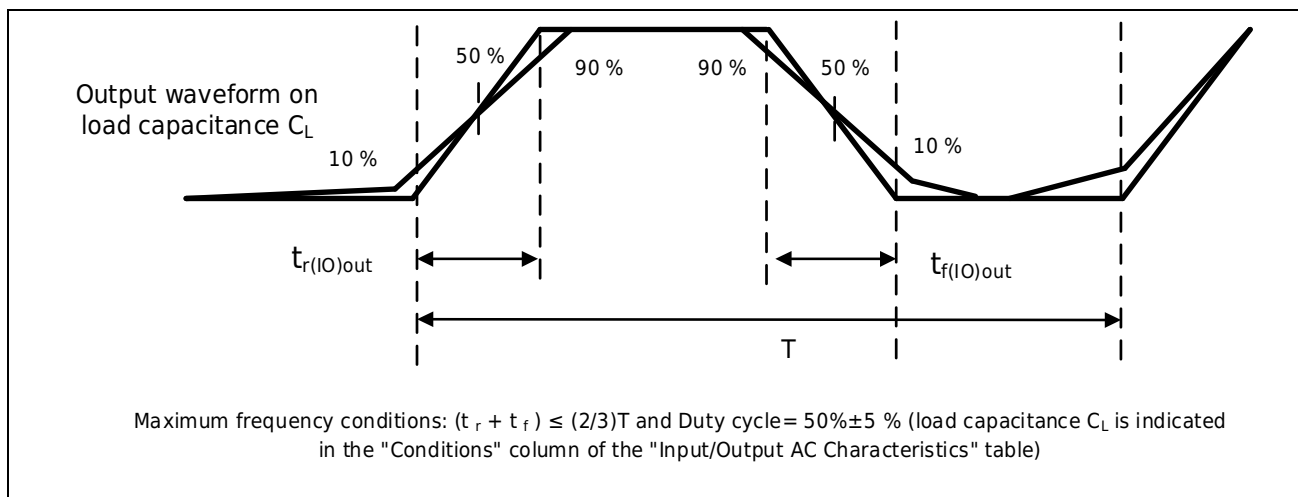

Figure 3-8 I/O AC Characteristics Definition
1. The maximum frequency is defined in Figure 3-8.